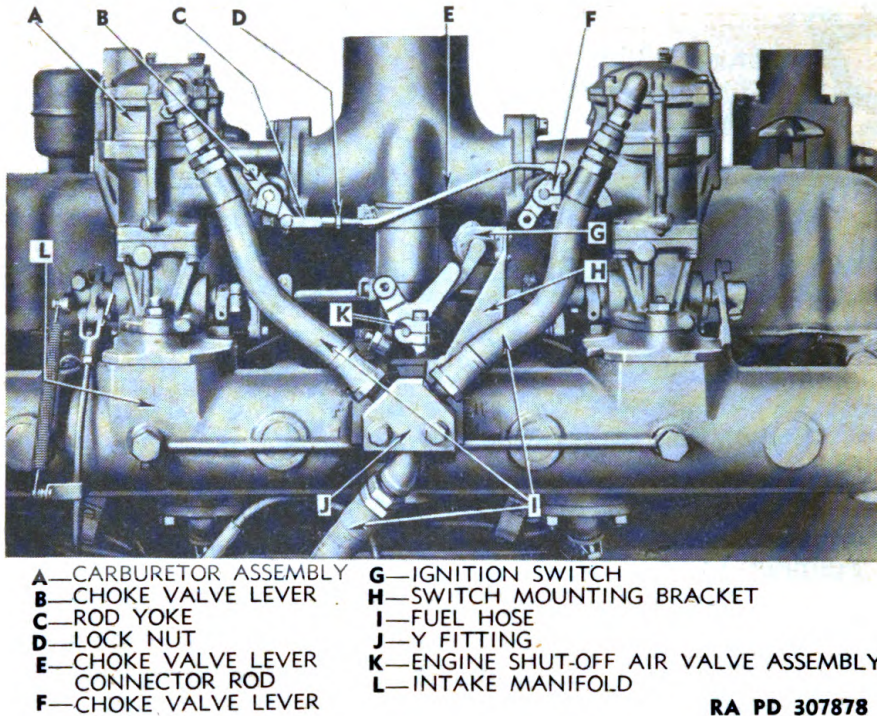

Figure 72 — Carburetor and Engine Shut-off
i. **Install Engine Shut-off Air Valve and Ignition Switch** (fig. 72). Install switch mounting bracket and air valve assembly on intake manifold in position shown in figure 72 with two cap screws with lock washers. Use gasket between bracket and intake manifold and between bracket and air valve housing. Set short hose over air valve housing. Install ignition switch on bracket as shown with two screws.
j. **Install Carburetor Assembly.** Install carburetor mounting adapters on intake manifold with two cap screws with lock washers in each (fig. 34). Use new gaskets between adapters and manifold. Connect each of the two carburetors to air inlet with three slotted head cap screws with lock washers (fig. 35), using new gaskets between inlet and carburetors. Slip carburetor connecting shaft couplings onto ends of carburetor throttle shafts as carburetors are connected to air inlet. Cement new gaskets to lower attaching flanges of carburetors and set carburetor assembly onto studs in carburetor mounting adapters on intake manifold, engaging air inlet in upper end of air valve and air inlet connecting hose at same time. Secure each carburetor with two nuts on mounting studs. Adjust hose on air valve and air inlet and tighten clamps. Connect end of choke valve lever connecting rod to upper end of choke valve lever as shown in figure 72 with yoke pin and secure with cotter pin. Hold choke
k. Install Fuel Lines (fig. 72). Attach Y-fitting to ignition switch mounting bracket with two cap screws with lock washers. Connect upper fuel hose to Y-fitting and carburetors. Connect lower hose to lower side of Y-fitting and fuel pump.
c. **Assembly of Air Valve.** Insert valve shaft through housing, leaving unslotted end projecting from stop screw side of housing. Slide valve plate into slot in shaft so that beveled edges of plate will fit tightly against sides of housing when shaft is rotated in counterclockwise direction. Secure valve plate in shaft with two screws with lock washers. Tap expansion plug into housing at short end of shaft. Insert new felt dust seal over projecting end of shaft and into recess in housing. Slip flat washer onto shaft and against felt seal, then tap lever onto valve shaft. Adjust lever so slot in clamping part of lever is parallel with attaching face of housing with valve closed (fig. 72),